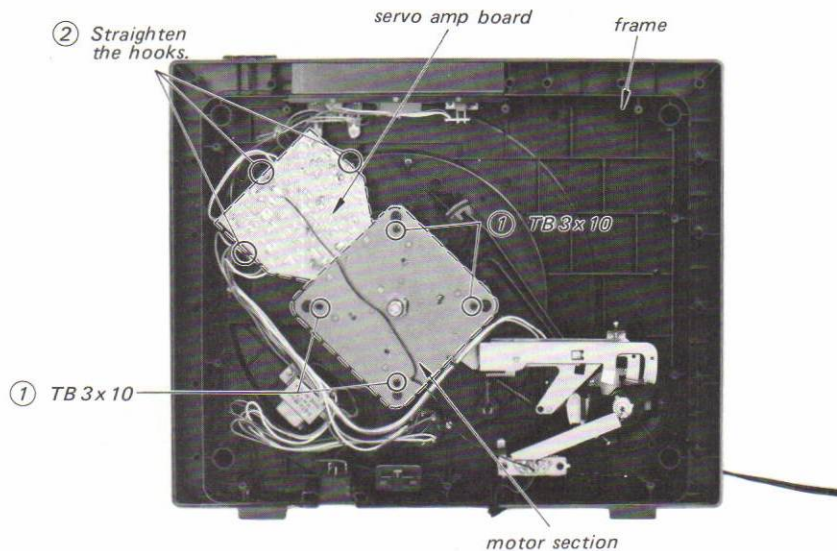

Fig. 2-5
1. Remove four screws and straighten the hooks as shown ① and ② in Fig. 2-5.
2. Confirm that the positions of the center gear and the drive gear are the same as shown in Fig. 2-6. Then, remove the servo amp board and the motor section downward. (Enclosed by the broken line in Fig. 2-5.)